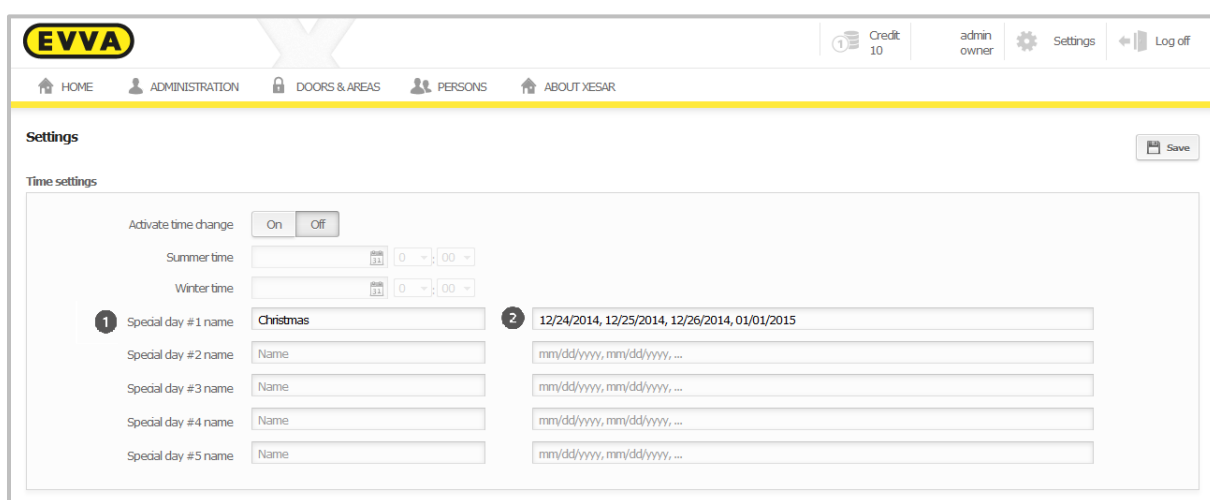

Figure 97: Configuring special days
- You can specify any designation for the special day. Enter the desired description in the corresponding field, in this case "Christmas" ❶ (Figure 97: Configuring special days).
In total, you can assign fifty days ❷ (Figure 97: Configuring special days), for instance you can assign fifty data records to a special day or five special days with ten data records each. Each date must be specified in DD.MM.YYYY format and several dates must be separated by a comma.
(Figure 97: Configuring special days) to **activate** the special day function.
As a result, office mode on the previously specified days 24.12.2014 - 26.12.2014 (refer to Figure 97: Configuring special days) is **automatically deactivated** as you did not specify automatic office mode on the "Christmas" special days and special days take precedence over "normal" automatic office modes.